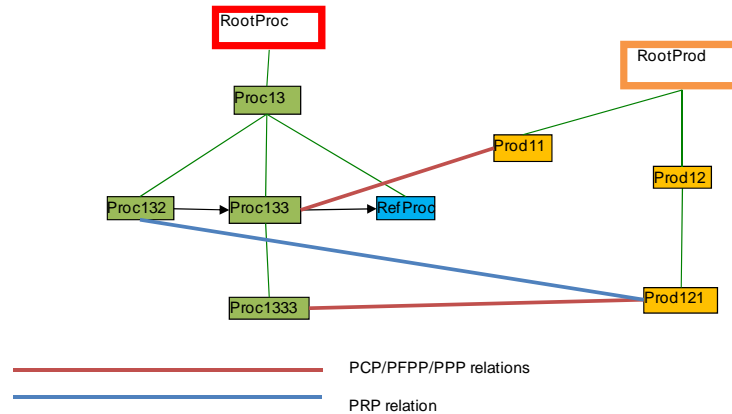

Figure 36: Integrate State
- At least one predecessor process is linked with the product via an "integrating relation" (PCP, PFPP, or PPP), and no other predecessor process is linked with the product via a "removing relation". For example, "Prod11" in Figure 36.
- The product is linked with some predecessor processes via both “integrating” and “removing” relations. Further, there exists at least one “integrating” process for each “removing” process, such that the “integrating” process is a successor of the “removing” process. For example, “Prod121” in Figure 36.